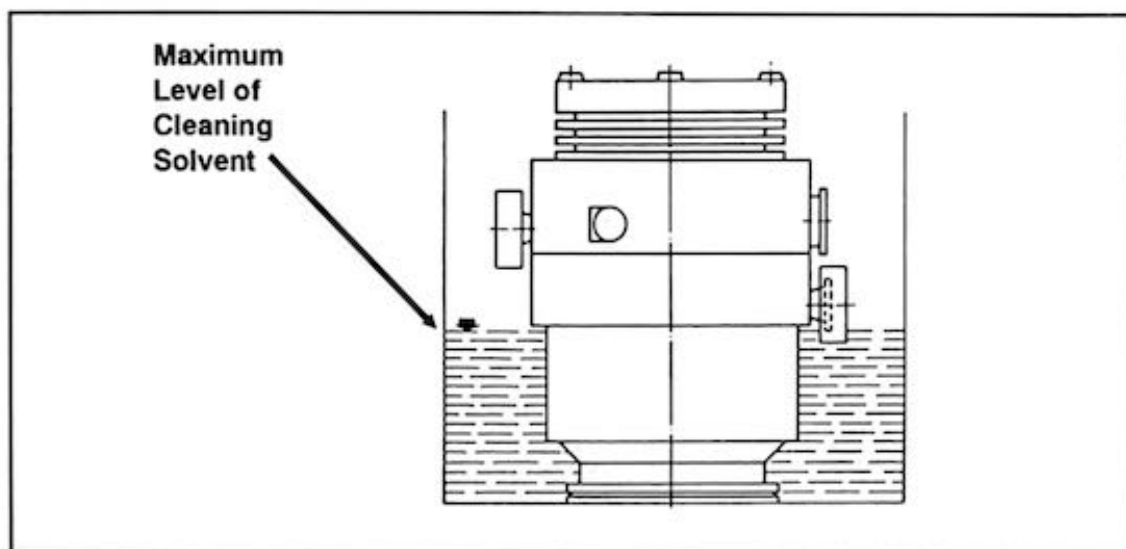

Figure 4-1. Turbopump Cleaning without Disassembly
CAUTION: In the following step, DON'T allow the venting port to be submerged in the cleaning solvent; the cleaning solvent level must be below the rim of the venting port as shown in Figure 4-1. This prevents cleaning solvent from entering into the ball bearing assembly.
3. Slowly lower the turbopump upside down into a container filled with a suitable solvent such as acetone. Freon TF works well but isn't recommended because of environmental concerns (see Figure 4-1).